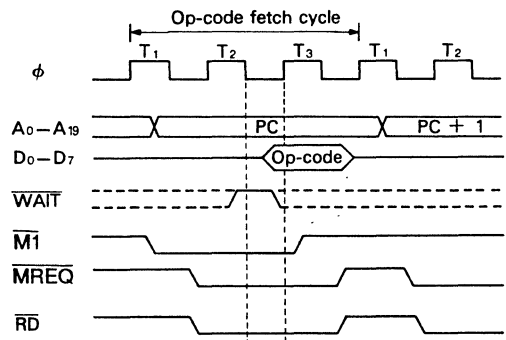

Figure 8. Opcode Fetch timing (Without Wait State)
**Instruction (op-code) Fetch Timing.** Fig. 8 shows the instruction (op-code) fetch timing with no wait states. An op-code fetch cycle is externally indicated when the  $\overline{M1}$  output pin is LOW.